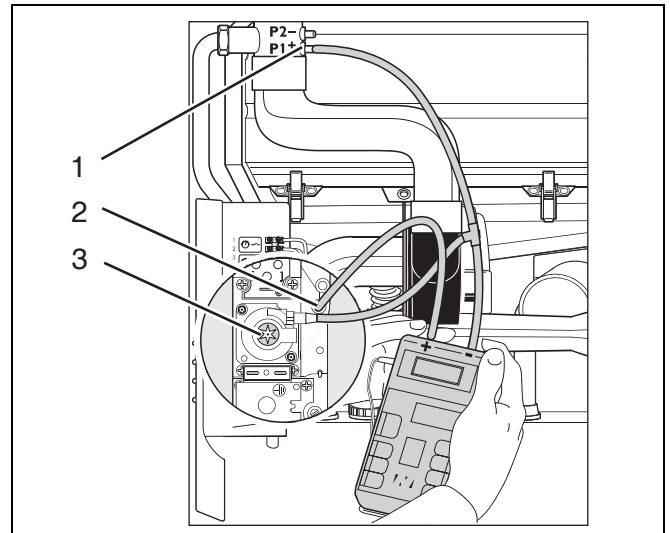
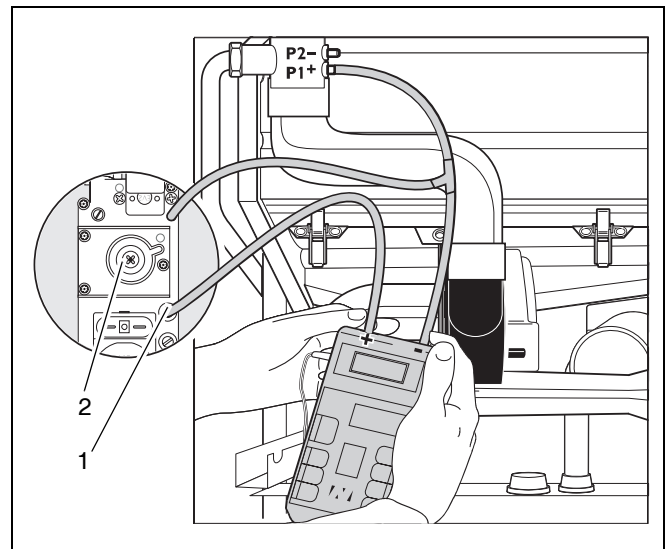

fig. 38 Checking and adjusting the gas/air ratio (Honeywell gas unit)
fig. 39 Checking and adjusting the gas/air ratio (SIT gas unit)
- Pull off the bottom hose attached P1 (fig. 38, item 1) and fit a hose with Tee in between.
- Loosen the screw in the burner pressure measuring nipple on Honeywell gas units (fig. 38, item 2) two turns, completely unscrew the screw on SIT gas units (fig. 39, item 1).
- Connect the positive port of the pressure gauge with a hose to the burner pressure measuring nipple (fig. 38, item 2 or fig. 39, item 1).
- In case of gas/air ratio deviations, adjust by using the setscrew (fig. 38, item 3 or fig. 39, item 2).
If the measured value is too high or too low, use the setscrew of the gas burner unit (fig. 38, item 3 or fig. 39, item 2) to set the gas/air ratio under partial load.